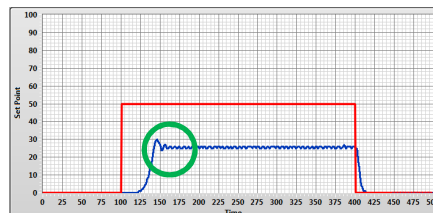

Fig. 33 – Oscillating System
- 4) Increase the $K_P = K_{osc}$ gain until the system starts oscillating. In fig. 33 the red line is the reference and the blue line is the transducer voltage value.